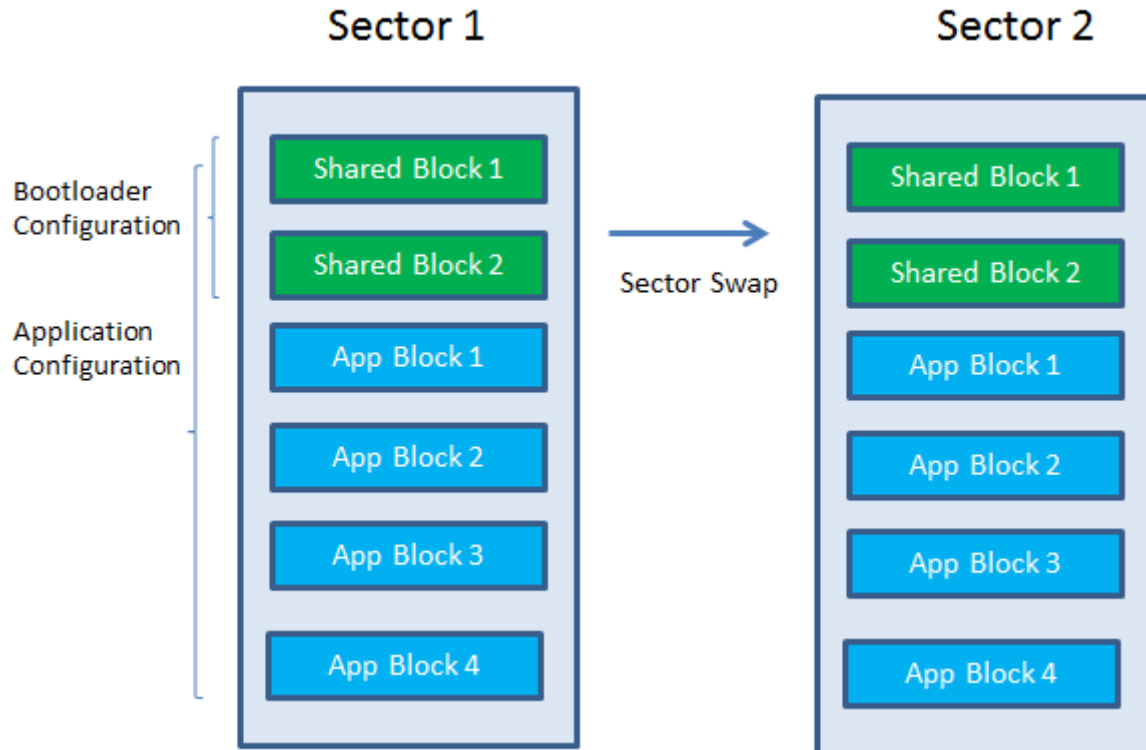

Figure 3. Correct Sector Swap
3. Configure the bootloader FEE configuration such that the `FEE_NUMBER_OF_UNCONFIGUREDBLOCKSTOCOPY(TI_FEE_NUMBER_OF_UNCONFIGUREDBLOCKSTOCOPY` if HALCoGen FEE driver is used) is configured to 4, and configured to a value of `FEE_TOTAL_BLOCKS_DATASETS` in the application FEE configuration, as shown in Figure 3.